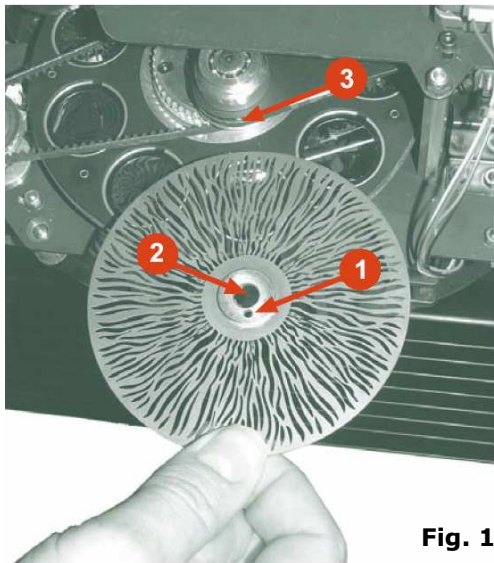

Fig. 1
1. Place the head of the Synthesis in a vertical position (Fig.1)
2. Use a screwdriver to loosen screws 1, 2, 3 and 4 (Fig.1)